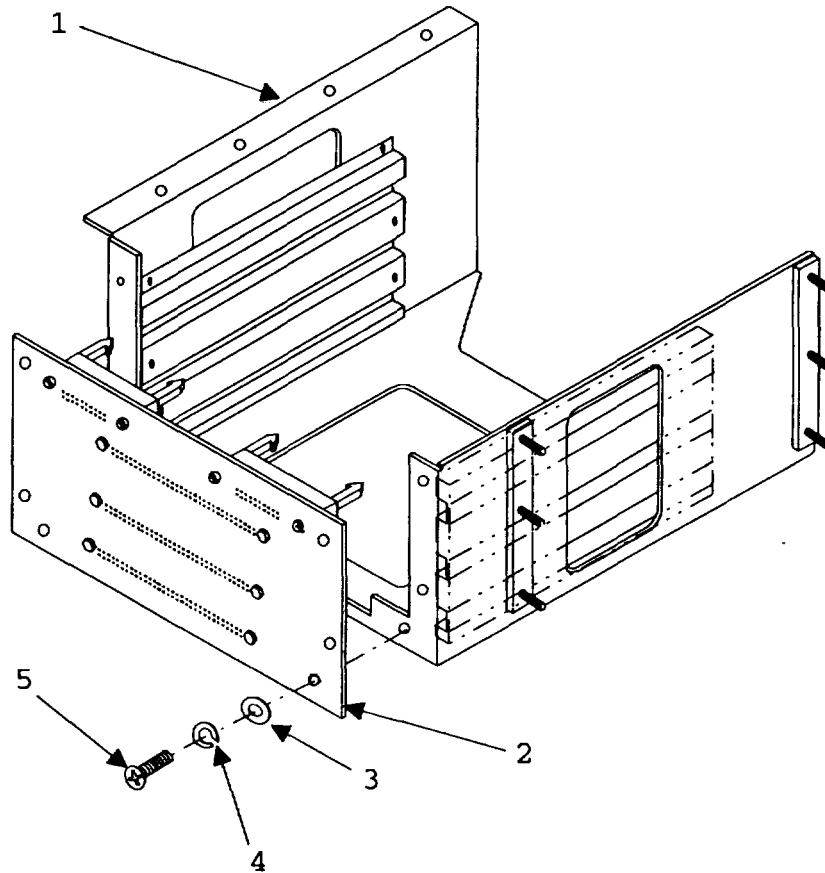

FIGURE 5-16. Card Cage Assembly Exploded View.
- (1) Disengage power to FTS.
- (2) If necessary, remove MCF CCA from card cage assembly. Release excess fiber from CCA by pulling up on velcro fiber retainers.
- (3) If necessary, remove FTF CCA from card cage assembly. Release excess fiber from CCA by pulling up on velcro fiber retainers.
- (4) Remove PS CCA from card cage assembly, if necessary.
- (5) If necessary, disengage ribbon cables at J1 and J2 by releasing ribbon cable fasteners.
- (6) Using No. 1 cross-tip screwdriver, remove six screws (5, Fig. 5-16), flat washers (4), and lock washers (3) securing motherboard (2) to card cage assembly (1).
- (1) Align motherboard CCA to card cage assembly.
- (2) Using No. 1 cross-tip screwdriver, install six screws (5, Fig. 5-16), flat washers (4), and lock washers (3) to secure motherboard CCA (2) to card cage assembly (1).
- (3) Connect OSM ribbon cable P2 to J2 on motherboard CCA.
- (4) Connect wiring cable P1 to J1 on motherboard CCA.